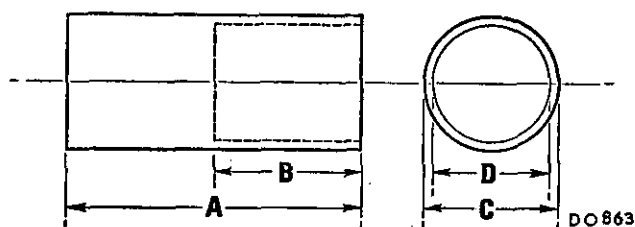

Fig. Nb.19
- (35) Carry out the operations detailed in (21) to (24).
- (36) Remove the three through-bolts.
- (37) Fit a tube of the dimensions given in Fig. Nb.19 over the slip-ring moulding so that it registers against the outer track of the slip-ring end bearing and carefully drive the bearing from its housing.
- (38) Remove the shaft nut, washer, pulley, fan, and shaft key.
- (39) Press the rotor from the drive end bracket.
- (40) Remove the circlip retaining the drive end bearing and remove the bearing.
- (41) Unsolder the field connections from the slip-ring assembly and withdraw the assembly from the rotor shaft.
- (42) Remove the slip-ring end bearing.